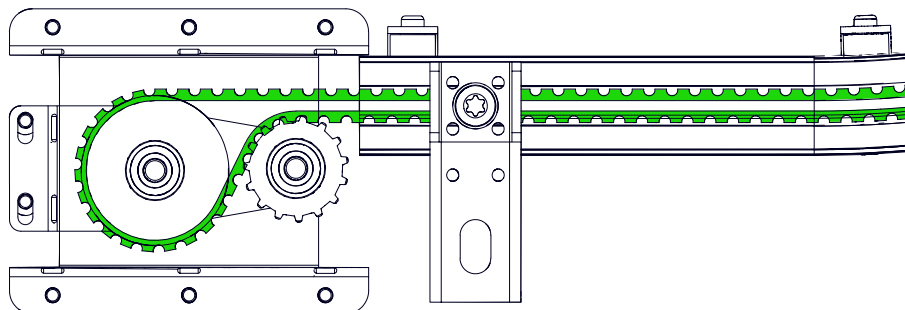

Fig. 73: Timing belt – Belt routing in the deflection unit
9. Pull the timing belt to the deflection roller at the track end and place it around the wheels according to Fig. 73 until both belt ends meet at the master carriage.